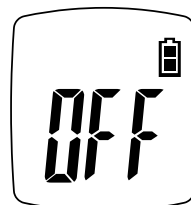

Figure 3.3
4. After measurement is taken, if the thermometer is idle for 30 seconds, it will display "OFF" (Figure 3.3) and give a "beep" before shutting off automatically.